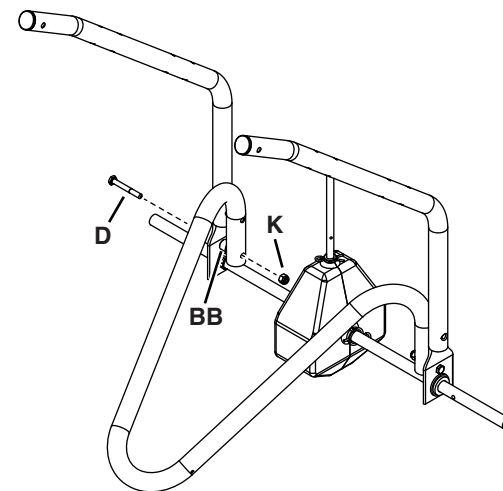

Figure 2
STEP 2: (SEE FIGURE 2)
- Install the stand tube (7) between the hopper support tubes as shown, using two 1/4" x 2" hex bolts (C), spacers (BB), and 1/4" nylock nuts (K). Place the spacers between the hopper support tubes and the stand tube. **Do not tighten completely.**